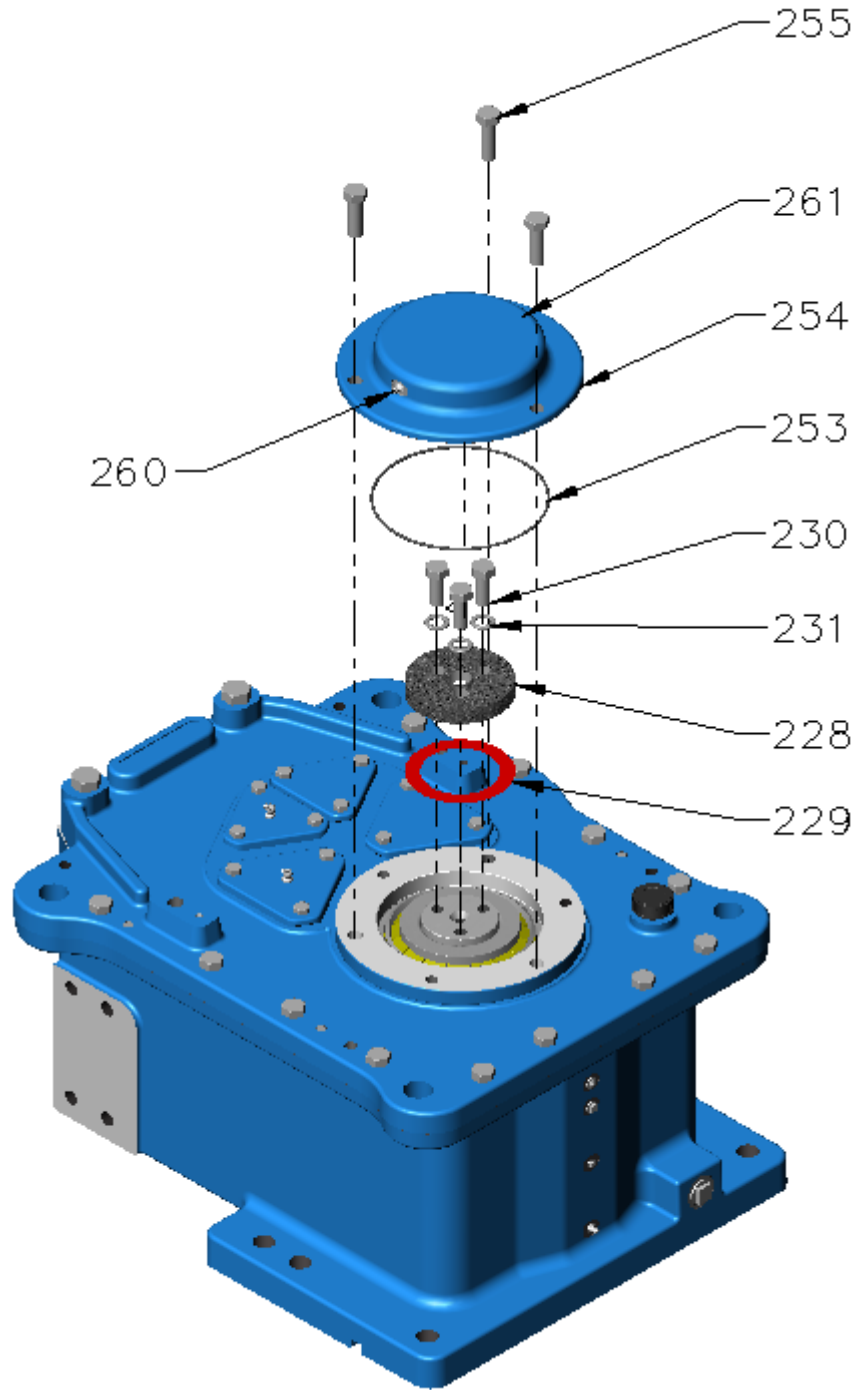

Figure 31 – Output Cap
- Z. Output shaft shim selection (refer Figure 31).
- (1) Make sure any fixture or arrangement to prevent the output shaft **[244]** from rotating is removed before shimming.
- (2) Install thrust washer **[228]** and bolts **[230]**. Torque-tighten bolts **[230]** to value given in Table 1.
- (3) Use a Dial Test Indicator (DTI) to measure end float of output shaft.
- AA. At output shaft, install following items (refer Figure 31):